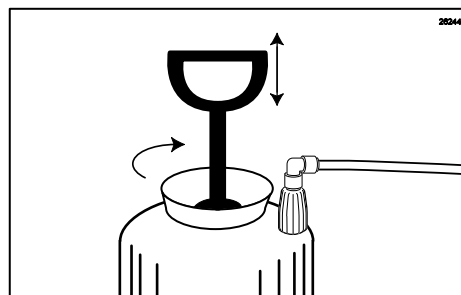

Figure 85
- Reinstall the hand pump and tighten sufficiently. Using the handle, pump air into the Sanitizer Tank to prime the pump (approximately 10 strokes.) (See Figure 85.)